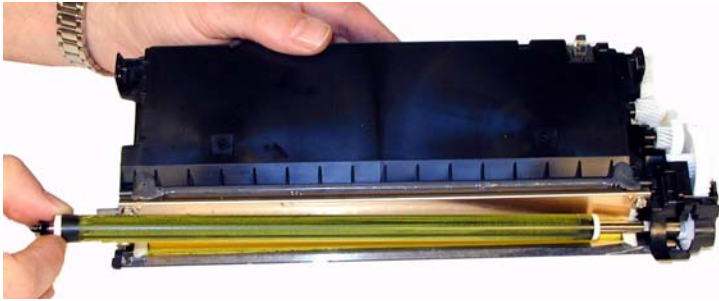

Figure 44
27) Slide the developer roller out from the cartridge. There is no need to remove the gear side end cap or gears. See **Figures 44 & 45**